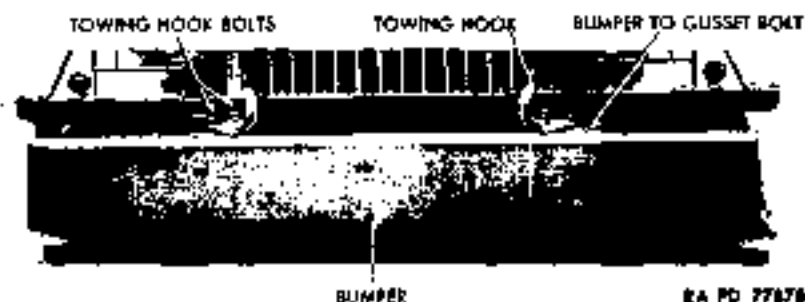

Figure 93 — Bumper and Towing Hooks Installed
a. **Description** (fig. 93). The bumper is attached to frame side rails at front of the vehicle for protection of vehicle, and for attaching a towing or lifting device to truck. A hole in center permits use of the starting crank through the bumper.
a. **Description** (fig. 93). Two towing hooks are attached to bumper gussets at front of vehicle for attaching towing cable.